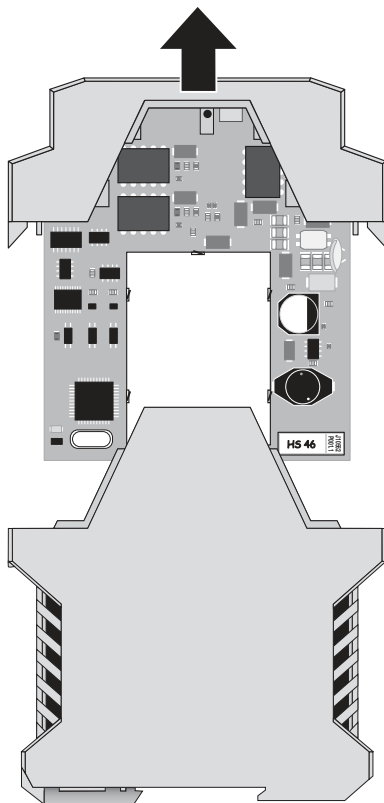

Figure 13 Removing the electronics module
4. Open the housing of the receiver in the existing system by pressing both housing latches on the sides. Remove the electronics module from the housing (see Figure 13).